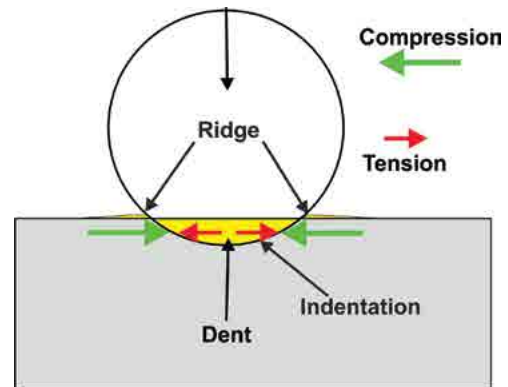

Fig.4. Dent setting up resisting forces.
**A8:** “The impacting shot particles each produce a dent. As a dent is being produced material is pushed outwards. The surface layer resists this movement, pushing inwards. (Newton’s Third Law states that when two bodies interact, they apply forces on one another that are equal in magnitude and opposite in direction.) The situation is illustrated by fig.4.